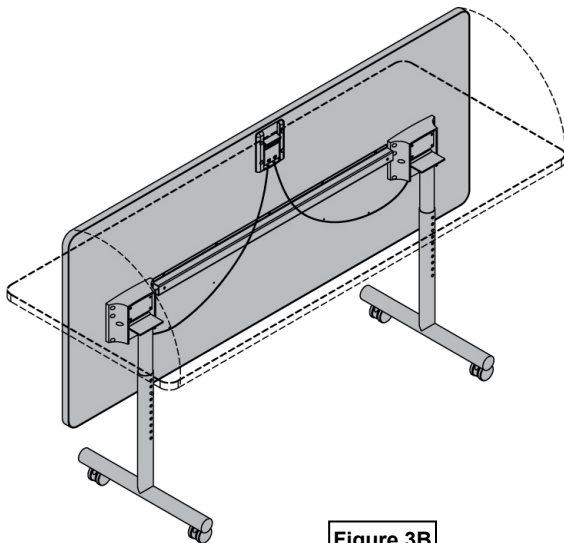
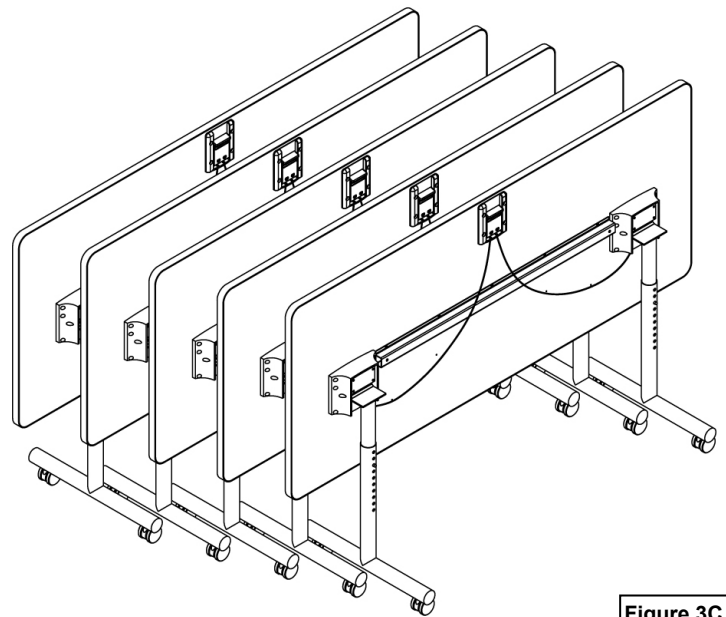

Figure 3B
Figure 3C
- To flip-up the worksurface, pull the release lever while lifting up the edge of the worksurface until it locks into place. **Figure 3B.** To lower, pull the release lever while lowering the worksurface-be sure it locks into place. Multiple tables can be "nested" together next to a wall to save space. **Figure 3C.**